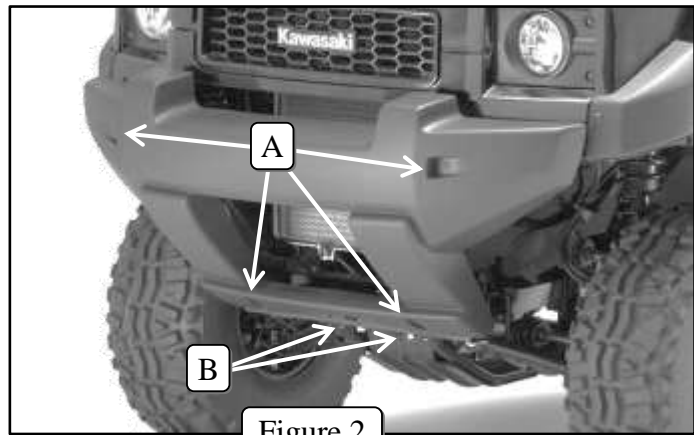

Figure 2
1. Remove 4 bumper bolts (A) as shown in Figure 2.
2. Remove two bolts (B) holding on front skid plate as shown in Figure 2 & 3. *These will be replaced with bolts from the hardware kit.*